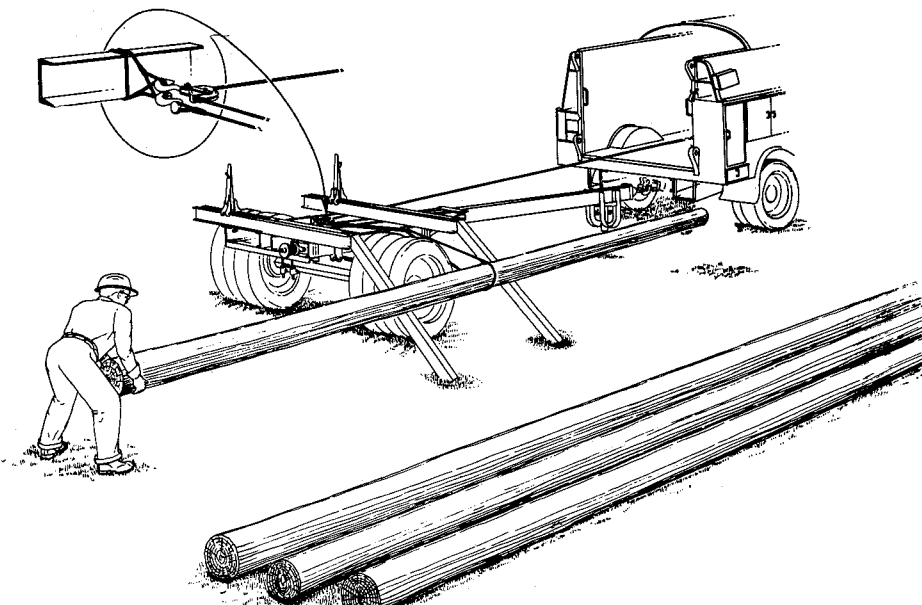

Fig. 2—Loading Poles Using Skid
5.03 Attach a snatch block to the side of the trailer (Fig. 2), then run the winch line through the block, over the pole to be loaded and then back to the rope holding the block. Then pull in the line using the winch and guide the pole up the skids to its place on the trailer. After the first few poles are loaded be careful that the winch line does not bind on the poles that are already loaded.